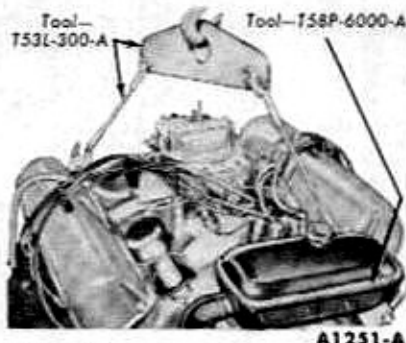

FIG. 13—Engine Lifting Brackets and Sling
24. Install the engine left lifting bracket on the front of the left cylinder head where the coil mounts. Install the engine right lifting bracket at the rear of the right cylinder head. Attach the engine lifting sling (Fig. 13.)
3. Attach the engine lifting brackets and sling (Fig. 13), then remove the engine from the work stand.